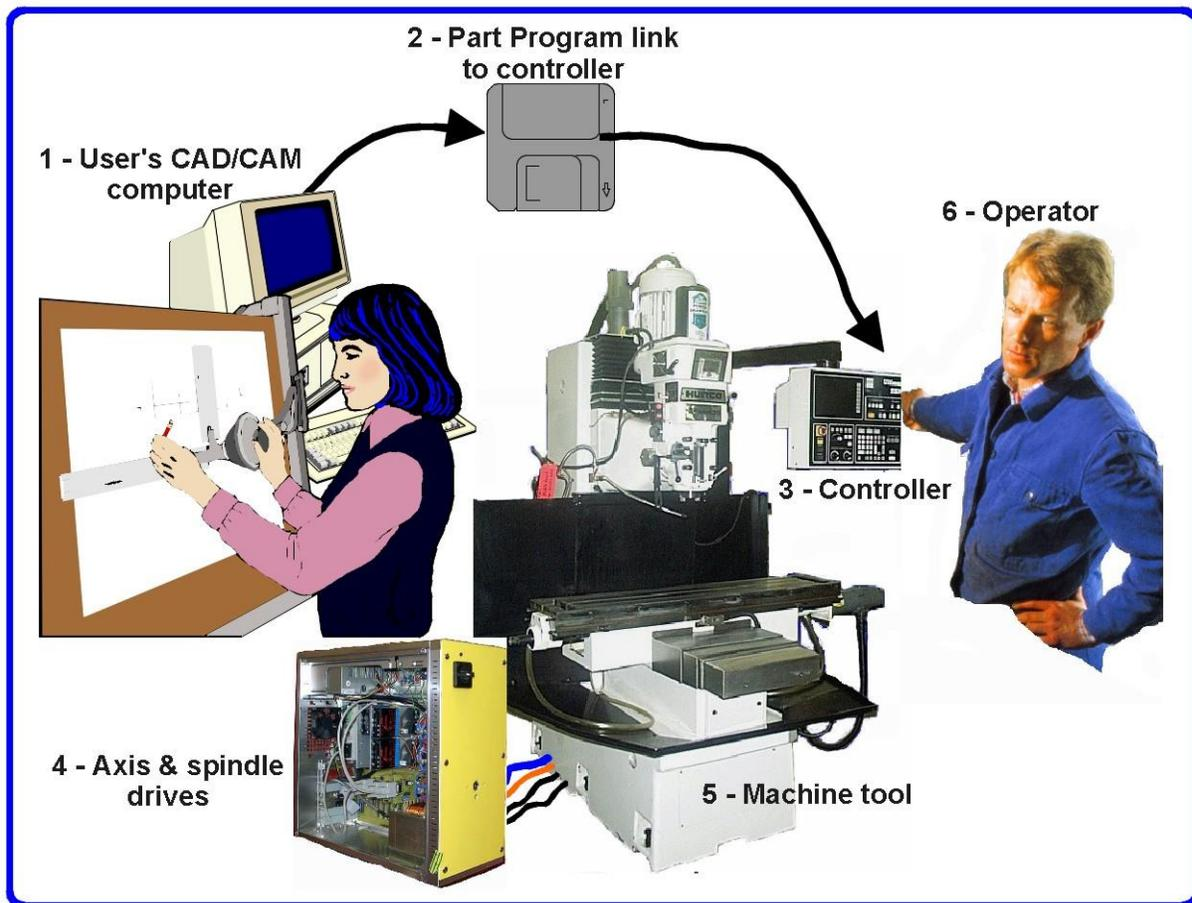

Figure 5-2 MAIN PARTS OF A CNC SYSTEM
The main components of a CNC system are shown in Figure 5-2. These are:
Mach3 is a software package that runs on a PC and turns it into a very powerful and economical Machine Controller to replace (3) Controller (Figure 5-2). Mach3 and its parallel port driver communicate with the Torus PRO Mill's hardware through a parallel (printer) port connected to the optional built in PC. Mach3 is used to control the Torus PRO Mill by generating step pulses and direction signals to perform the steps defined by a G-Code part program and sending them to the parallel port.